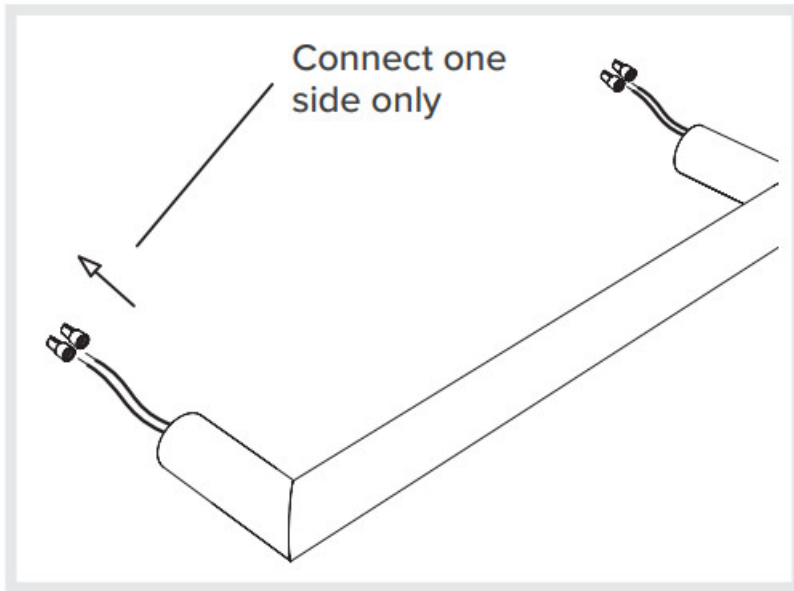

Figure 4.0
- Use a level to determine the correct position for the blocks at the non-cabled end. See Figure 4.0